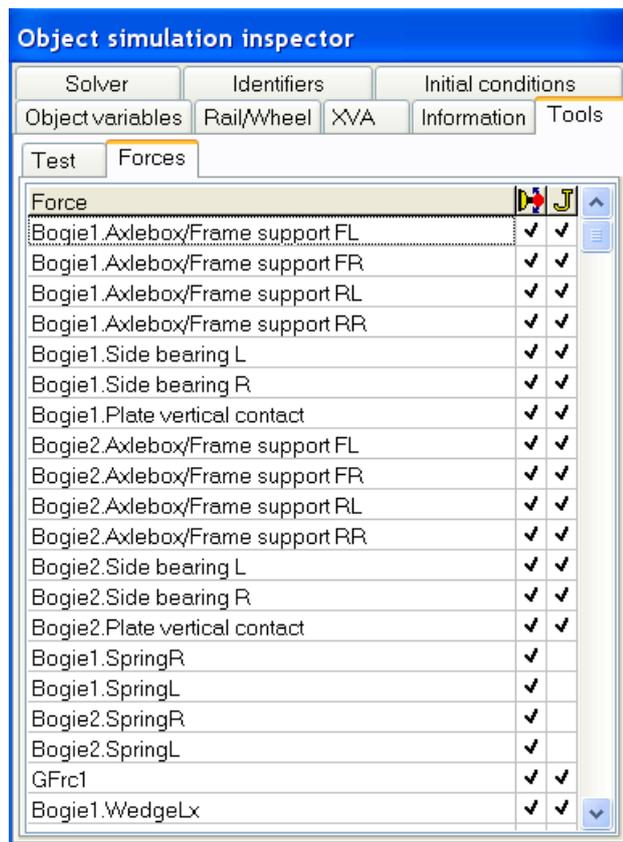

Figure 4.97. List of forces for disabling and setting the stiffness option
The user can disable any forces in the model. Disabled forces are not computed during simulations. The disabled/enabled key is available on the **Tools | Forces** tab. To disable a force, the user must uncheck it in the first column marked by the image , Figure 4.97. The list of disabled forces is stored in the model configuration file *.icf.
- Analyze calculated variables (the **Object variables** tab, Figure 4.97).